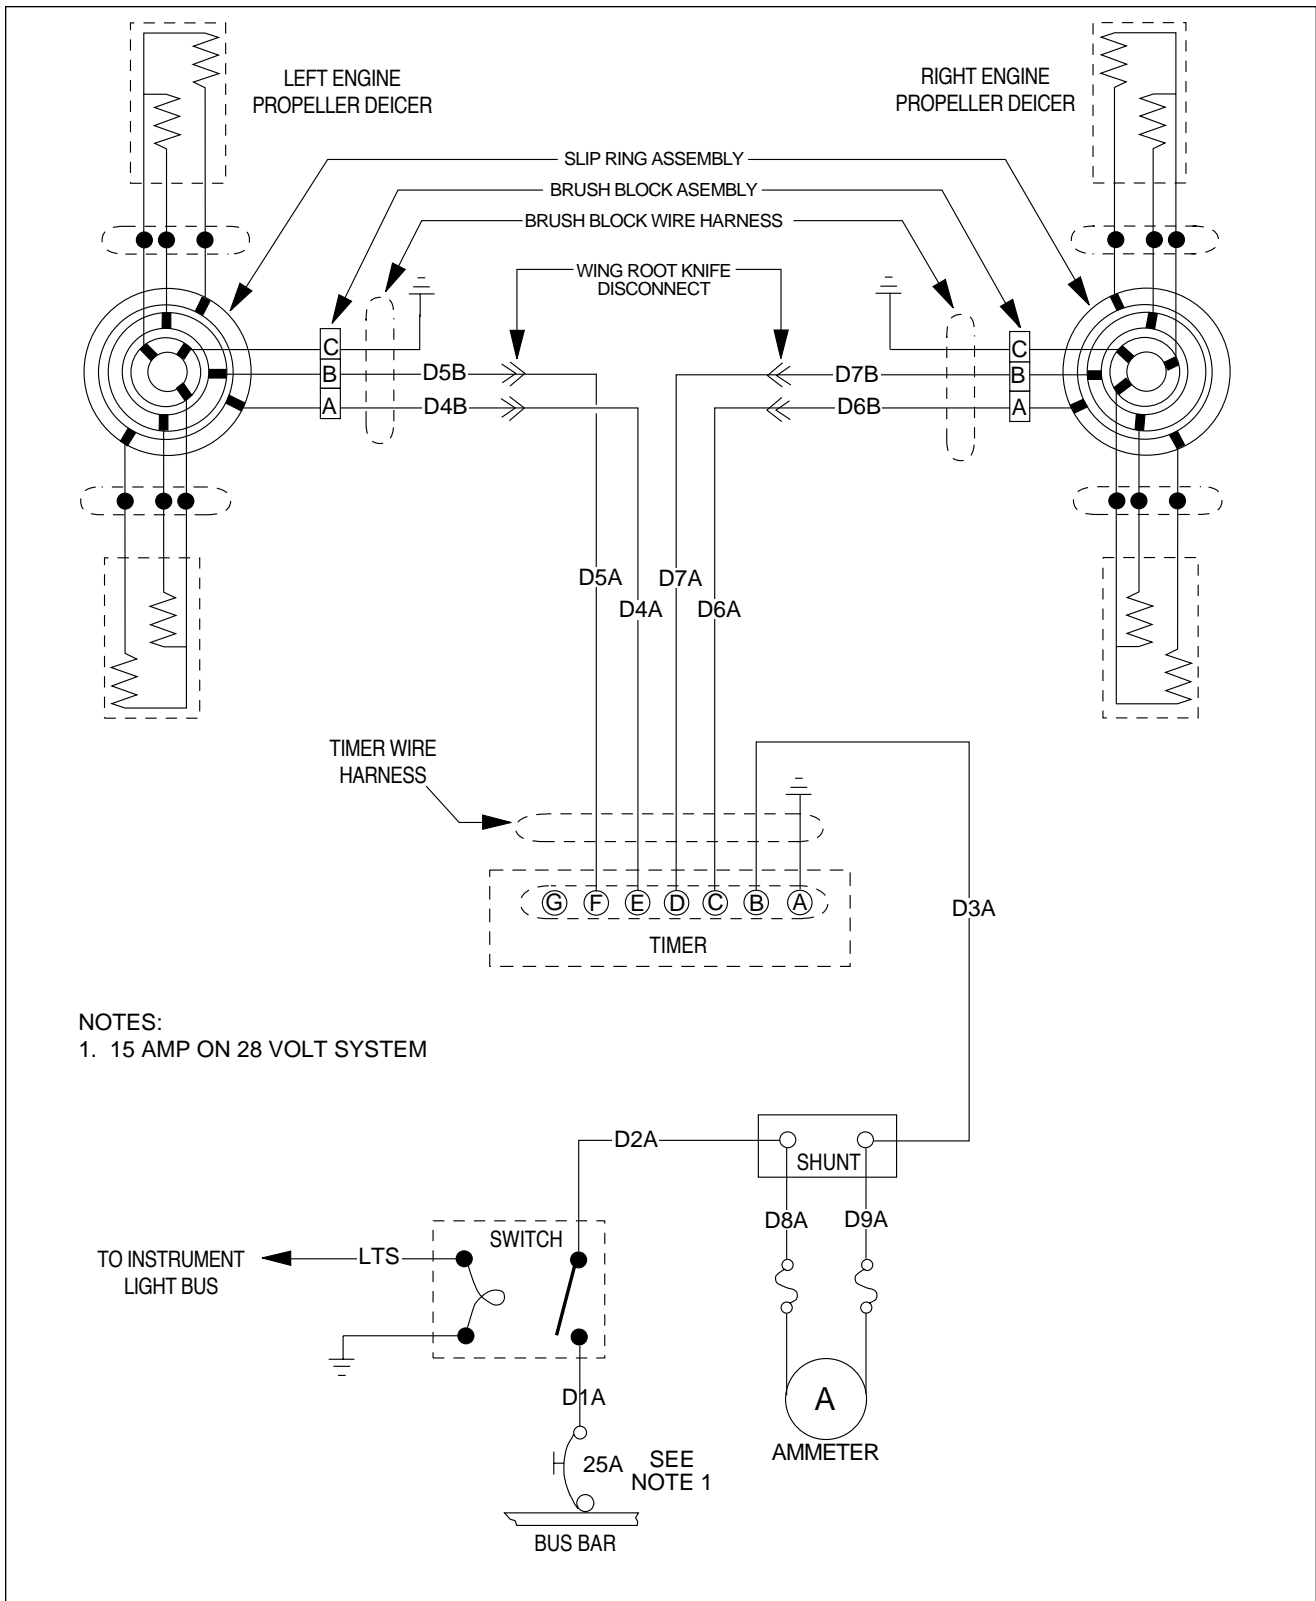

Figure 30-8. Wiring Diagram - Electrical Prop Deicing System (Two Blade)
When troubleshooting, first use the "ammeter test" and "heat test" to determine which circuits are involved. Use circuit diagram, Figure 30-8 for assistance to check voltages or continuity.
8. System Wiring: With deicer system operating, have assistant observe ammeter while visually inspecting and physically flexing wiring from brush blocks through firewall, to timer, to ammeter, to switch and to aircraft power supply. The ammeter will flicker as the timer switches approximately every 34 seconds in the cycle. Jumps or flickers at other times indicates loose or broken wiring in the area under examination at that moment. In such case, check continuity through affected harness, while flexing and prodding each wire in the area that gave initial indication of trouble. Use the wiring diagram in Figure 30-8 & 9 to trace circuitry.